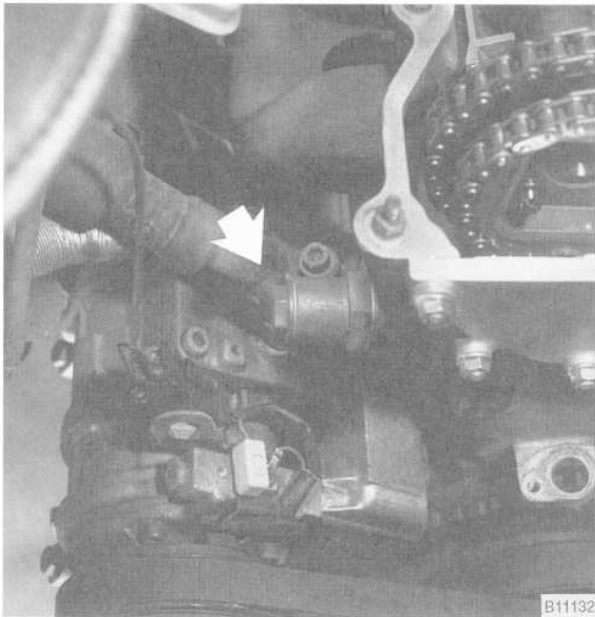

Fig. 17. Primary timing chain tensioner (arrow).
32. Remove the primary timing chain tensioner from the side of the cylinder head. See Fig. 17.